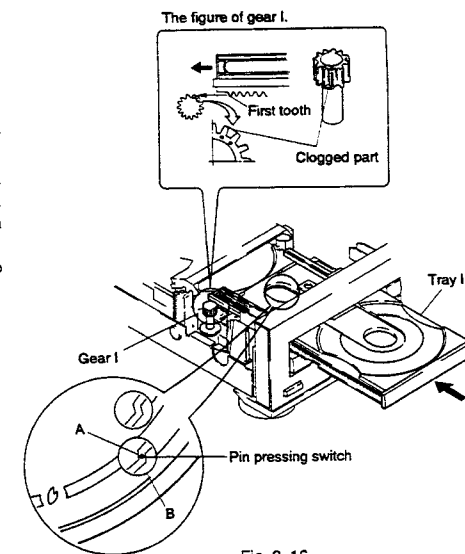

Fig. 2-16
- (2) As shown in Fig. 2-16, adjust the first tooth of the tray I to the clogged part of the gear I, then push in the tray I slowly.